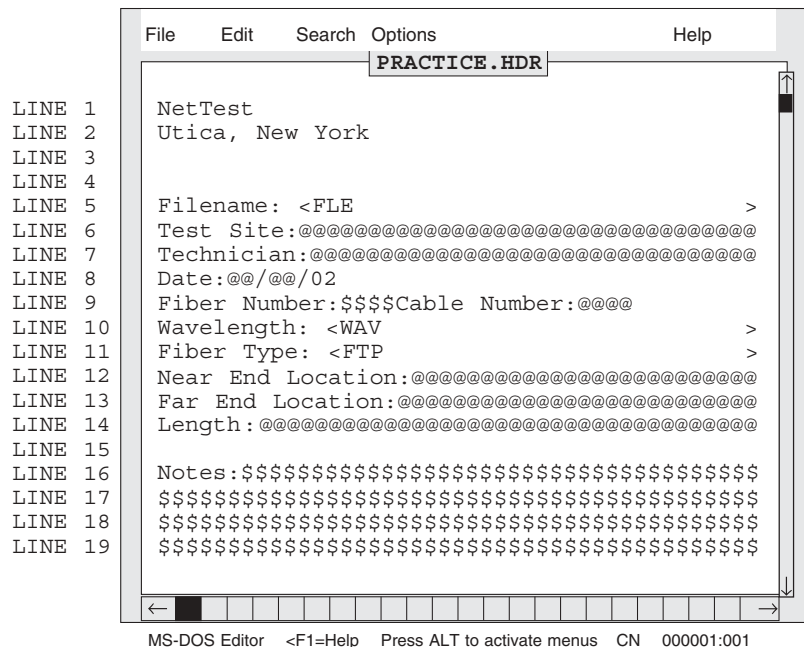

Figure 3-6: Custom Header Template Screen
- The symbols “<” and “>” indicate the start (<) and end (>) of an Auto Field (see Figure 3-6 on page 36).